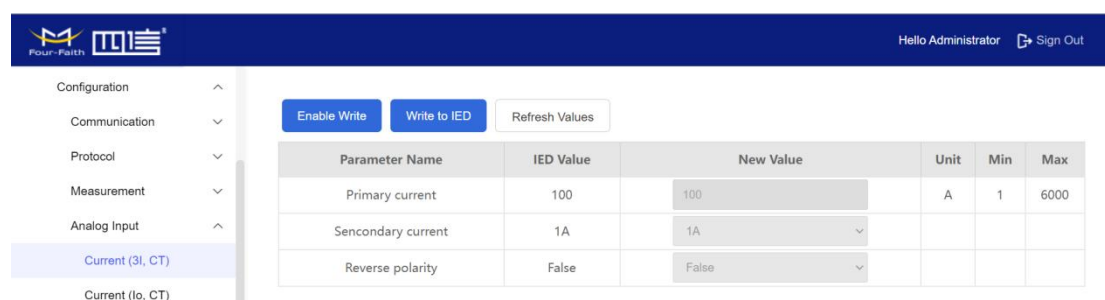

Figure 37
- 5) Click the “Analog Input” and parameter settings window will popup where it is possible to edit. (Figure 37)